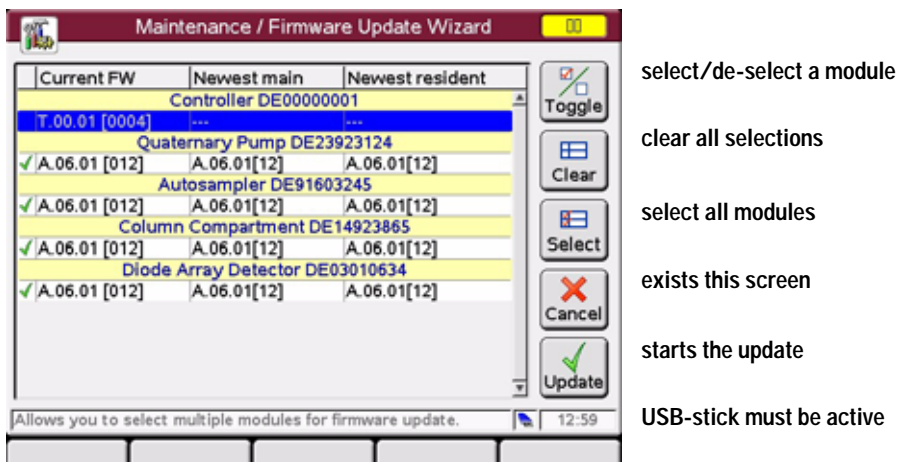

Figure 61 Firmware Update Screen - Update Wizard
- 2 The next screen (Figure 61) shows all modules, their installed firmware revisions and the available firmware revisions on the USB Flash Drive.